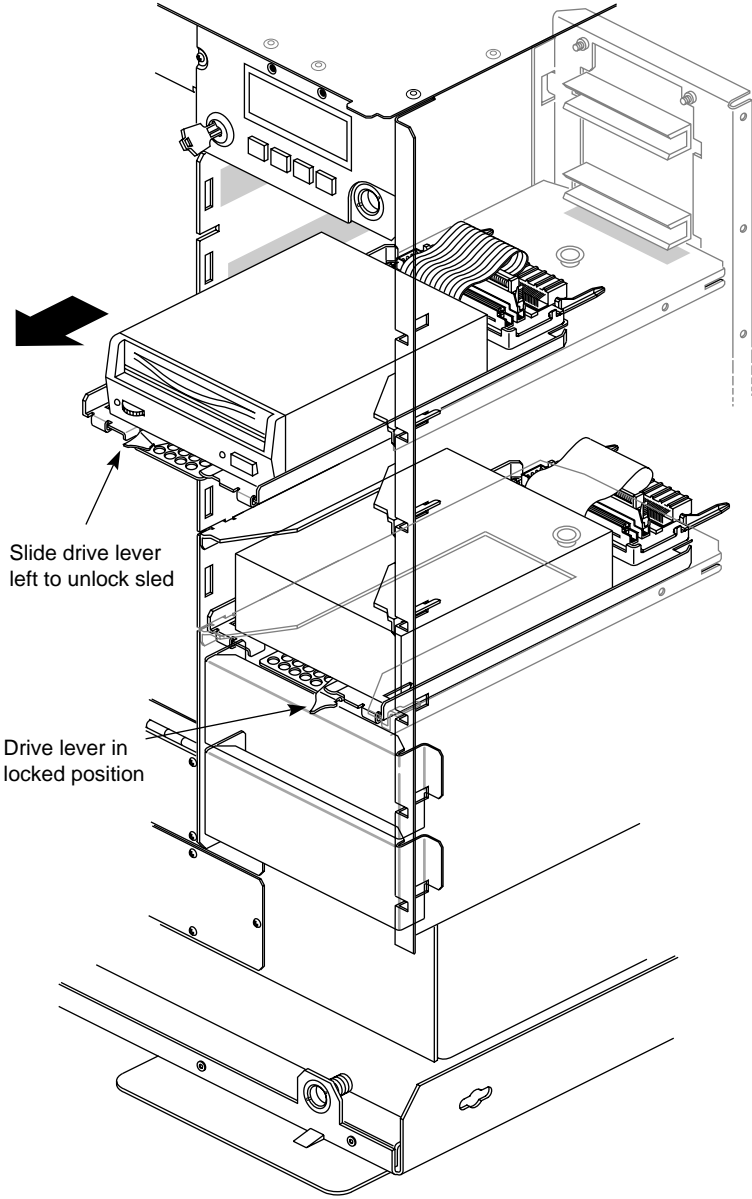

Figure 4-4 Drive Removal Example
3. Slide the locking lever on the drive sled all the way to the left and gently pull the drive and sled assembly out. See Figure 4-4.